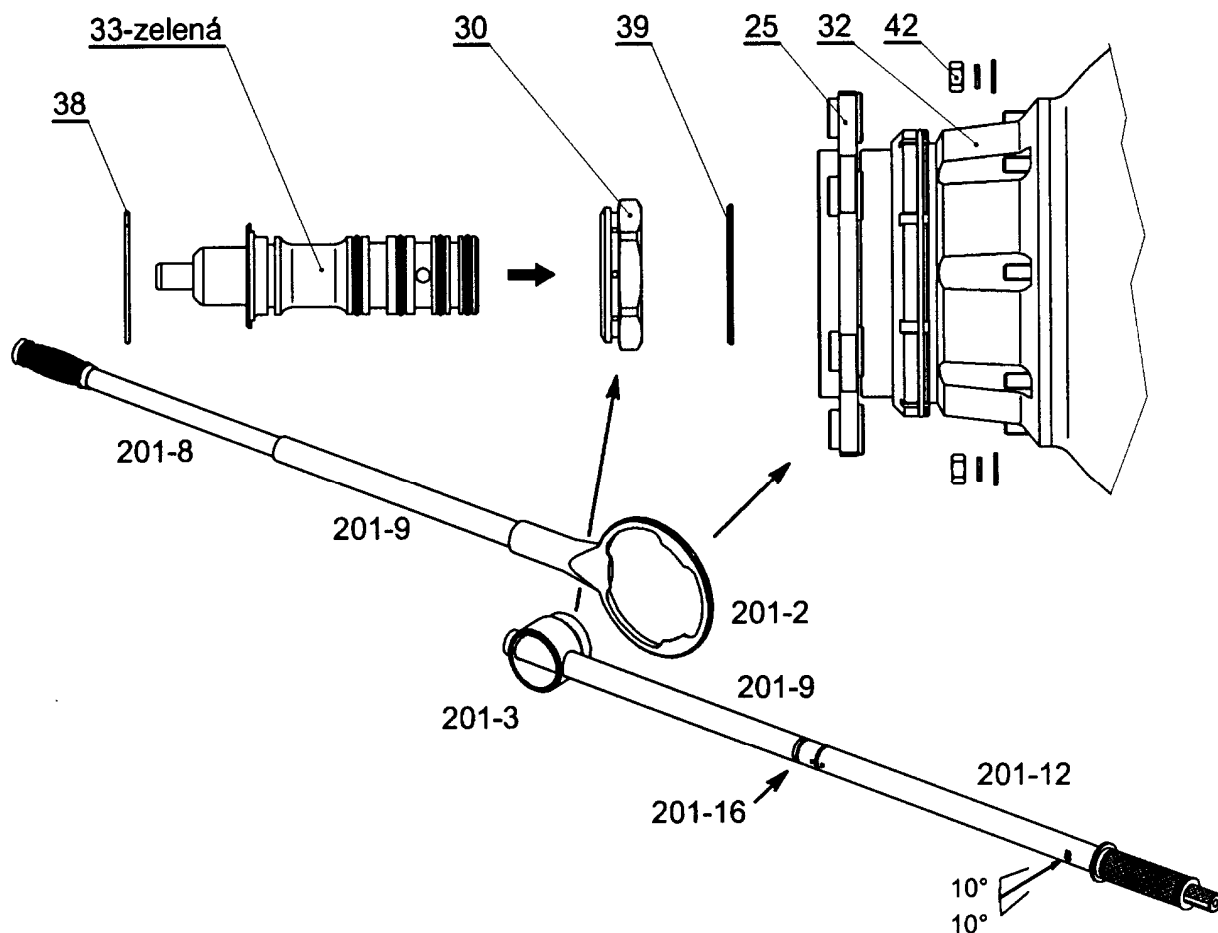

Fig.211 P 7900.01 distributor installation
- (10) When tightening the nut (30) set on the flange of the rotor (25) wrench (201-2) with mounting tube (201-9), and mounting rod (201-8) in order to prevent the turning of the crankshaft on the engine (see fig.211)
- (11) Put the insertion (33) [P 7900.01-0030 – **green**] into the opening in the crankshaft. Secure the nut (30) against loosening by means of the wire safety piece (38). A nose of the safety piece must be inserted into the groove in the insertion (33). So it is secured against shifting out of the crankshaft.
- (12) After tightening of the flange of the rotor (25) shift the distributor casing (32) to the cover of the engine casing. Step by step set the washers, elastic pads, screw in the nuts (42) and tighten by wrench 10 mm from the engine tool assembly.
- (14) When tightening the nut (30) set on the flange of the rotor (25) wrench (201-2) with mounting tube (201-9), and mounting rod (201-8) in order to prevent the turning of the crankshaft of the engine (see fig.211)
- (15) Put the insertion (33) [P 7900.01-0030 – green] into the opening in the crankshaft. Secure the nut (30) against loosening by means of the wire safety piece (38). A nose of the safety piece must be inserted into the groove in the insertion (33). So it is secured against shifting out of the crankshaft.
- (4) Before distributor fitting lubricate slightly engine shaft cone by the recommended graphite lubrication (see tab 203).
- (5) Set the selected sealing [218-6002] on the bolts of the engine cover.
- (6) Put carefully the distributor on the engine shaft.
- (7) Set the washer (59) and screw in the nut (50) on the engine shaft (see fig. 211).
- (8) Tighten the flange by the nut (50) to the shaft by means of tightening assembly consisting of wrench (201-3), mounting tube (201-9), extension piece (201-16) and torque stick (201-12). (specified torque moment see tab. 202).